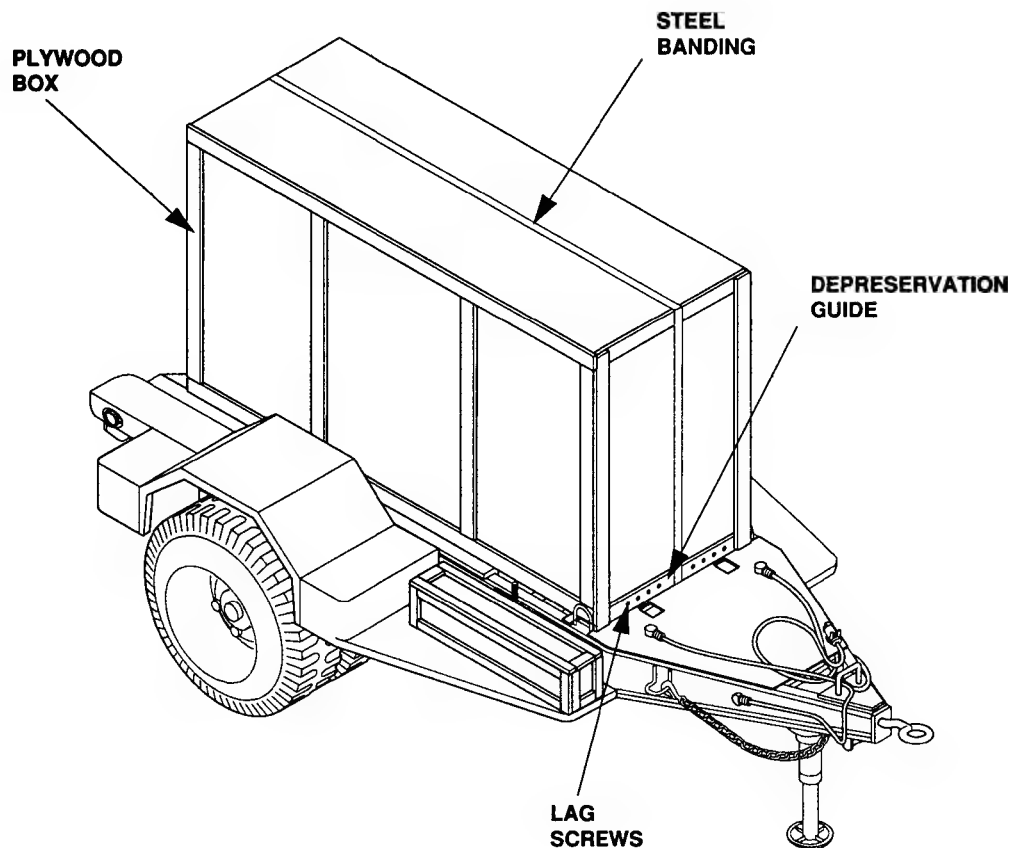
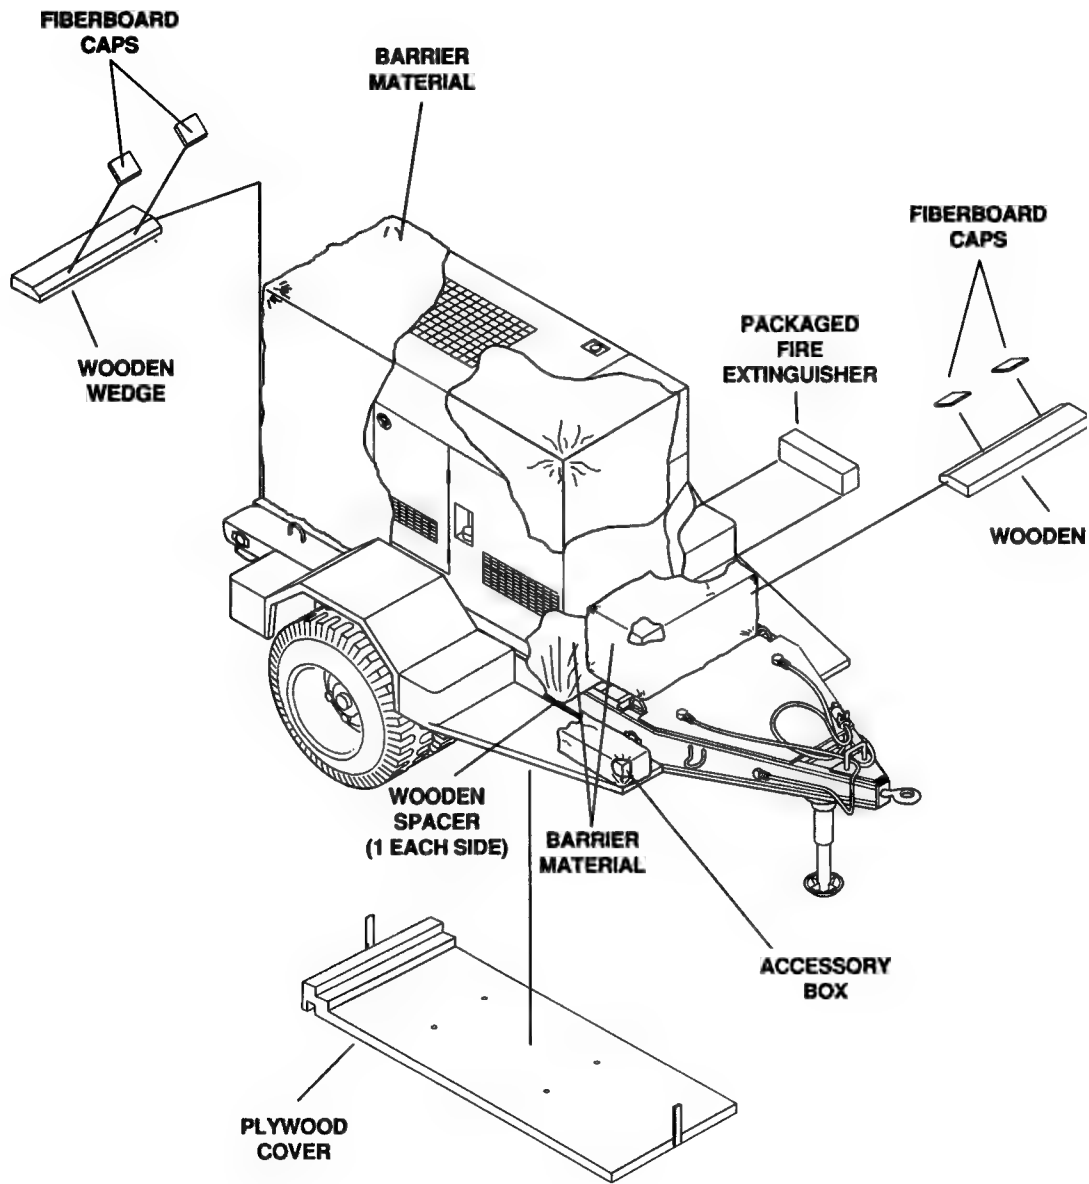

Figure 4-1. Power Unit Packed for Shipment.
Figure 4-2. Unpacking Power Unit.
4-4.1 Unpacking Power Unit. (Refer to figure 4-1 and figure 4-2.) The power unit is boxed prior to shipment. The PU-803 and PU-804 are identical with the exception of the electrical output frequency of the generator sets. Two PU-803 Power Units makeup the AN/MJ Q-40 power plant. Therefore, the unpacking procedures are typical for each configuration. Each generator set is packed in place on its respective trailer. Before beginning the unpacking procedure, locate and remove Depreservation Guide.
- d. Refer to figure 4-2 and remove wooden wedges, spacers, and fiberboard caps from around generator set skid bases.